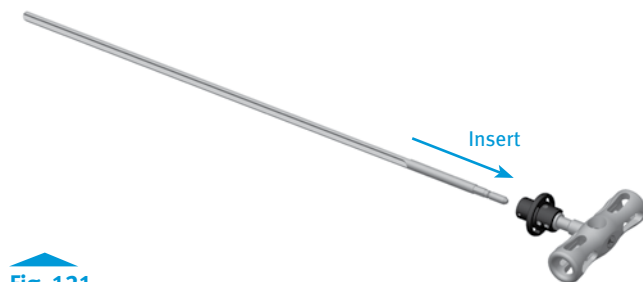
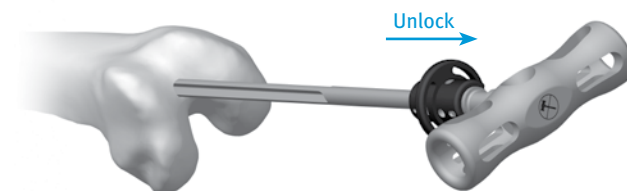

Fig. 121
Fig. 122
- Insert the Femoral IM Rod into the Modular T-Handle (Fig. 121) and insert the IM-Rod into the femur far enough to ensure the most accurate replication of the anatomic axis, then remove the Modular T-Handle (Fig. 122).